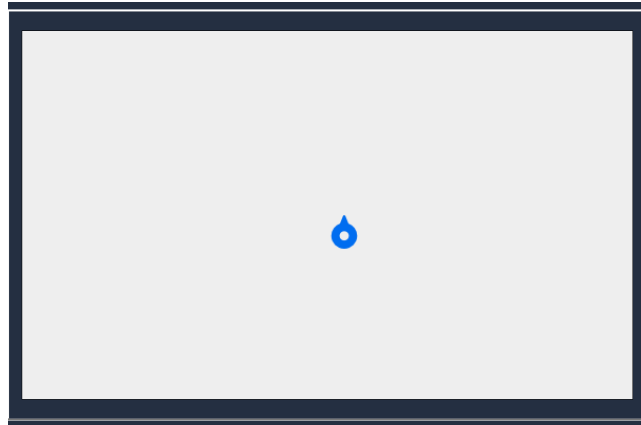

Figure 13: Map Display
- This region (Figure 13) will display the map visualization by rendering the map data. It displays the robot position and map features. It also allows the user to modify the map by marking no go zones or creating destinations.